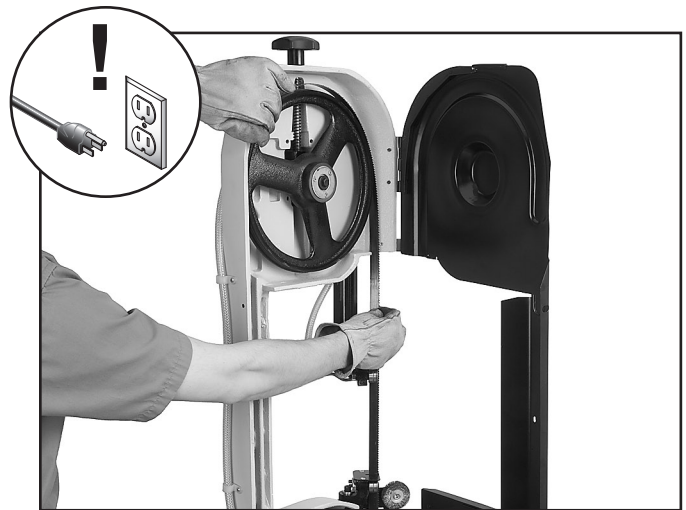

Figure 44. Installing blade.
5. Install the new blade through both blade guide bearings, as shown in **Figure 44**, and around the bottom wheel.